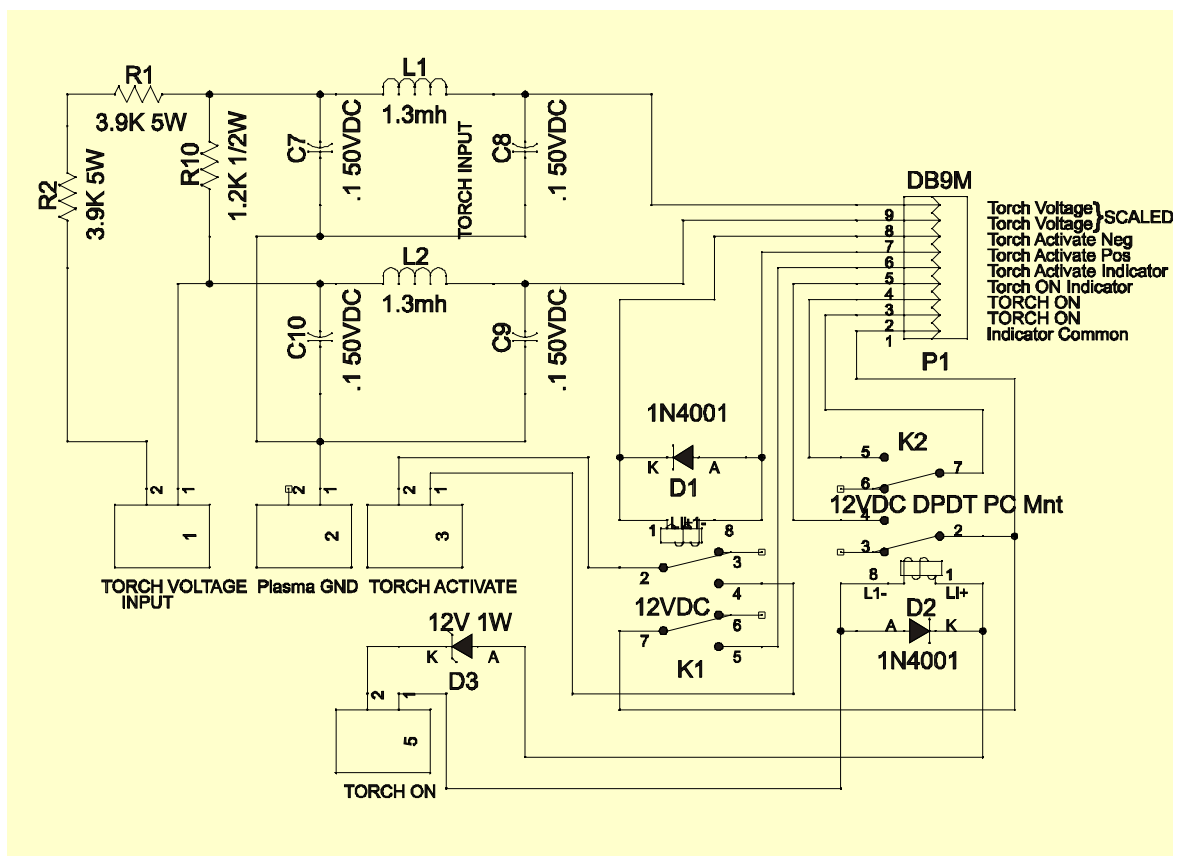
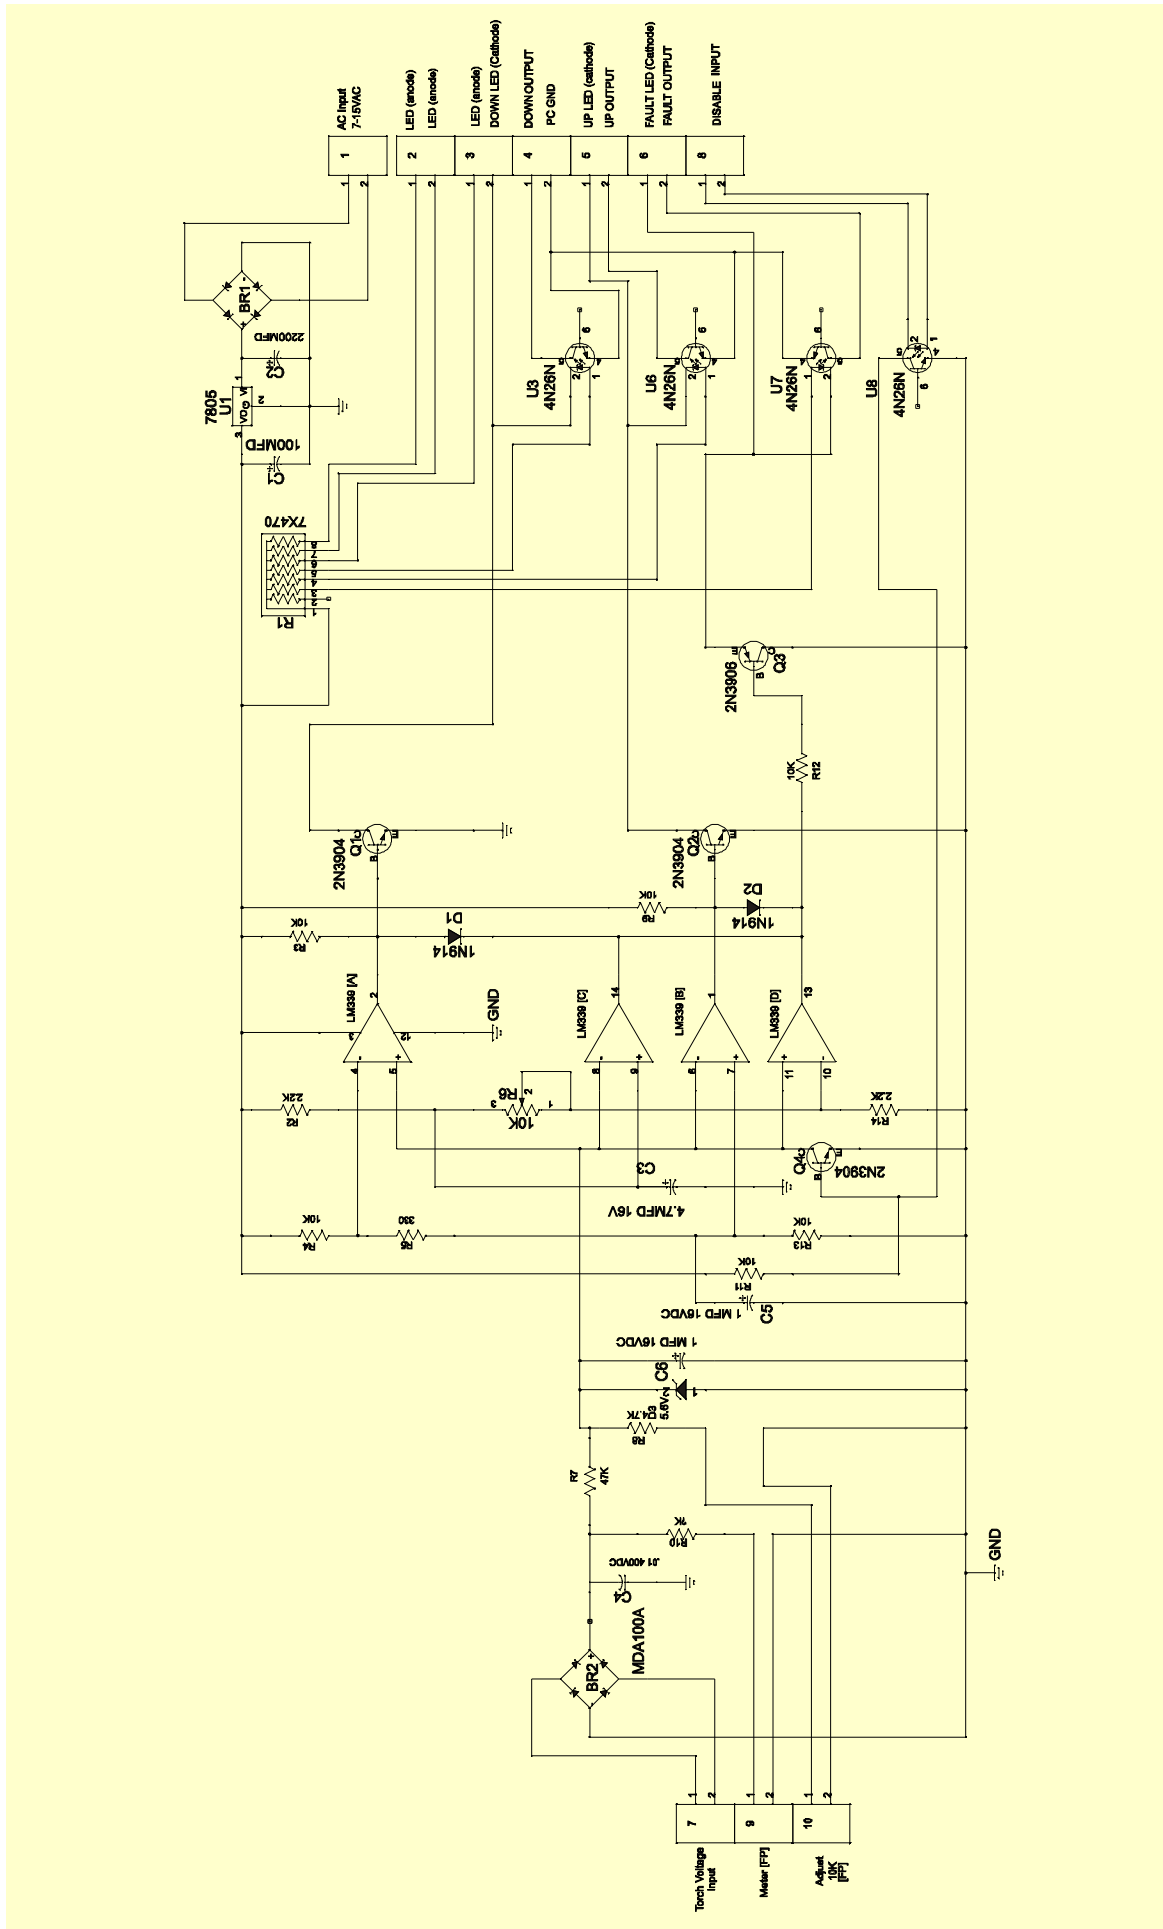

Figure 12.2 – Sample interface for Miller plasma cutter unit
Figure 12.3 – Interface from modified plasma cutter to Mach2 parallel port
2. The circuits are designed to give isolation between the THC and the computer parallel port(s). The internal plasma card (figure 12.2) located inside the plasma torch controller uses the plasma internal low voltage DC to operate relays to provide isolation of signals. The THC controller circuit (figure 12.3) has opto isolators to keep dangerous torch voltage and ground currents away from the computer.
3. The functional blocks on figure 12.2 are: (a) a potential divider and filter network for sensing the arc voltage; (b) a relay to simulate the operation of the torch trigger switch and (c) a relay to provide a contact closure when the arc is proved good by the plasma controller.
4. The functional blocks on figure 12.3 are: (d) Comparators to establish the highest and lowest acceptable arc voltages. These drive the up and down outputs which are Active Lo logic. The deadband between these voltages is adjustable. (e) Comparators to raise a fault condition if the arc voltage strays beyond limits wider than the control limits; (f) Optical isolation and front panel LED indicators for these signals. (g) A regulated DC supply fed from an isolated external transformer winding. (h) Connections for a panel mounted potentiometer (ideally 10 turn) to set the ideal torch height arc voltage and a panel mounted voltmeter to monitor the actual arc voltage.
- The THC Mach2 Controller Circuit (fig 12.3) and the THC Internal Plasma Card schematics and Printed Circuit Board artwork are copyrighted original works. You may **not** make copies beyond what is required to accomplish the goals stated above. You may **not** make additional printed circuit boards to **resell**, or **sell kits** or **finished units** based on the designs.